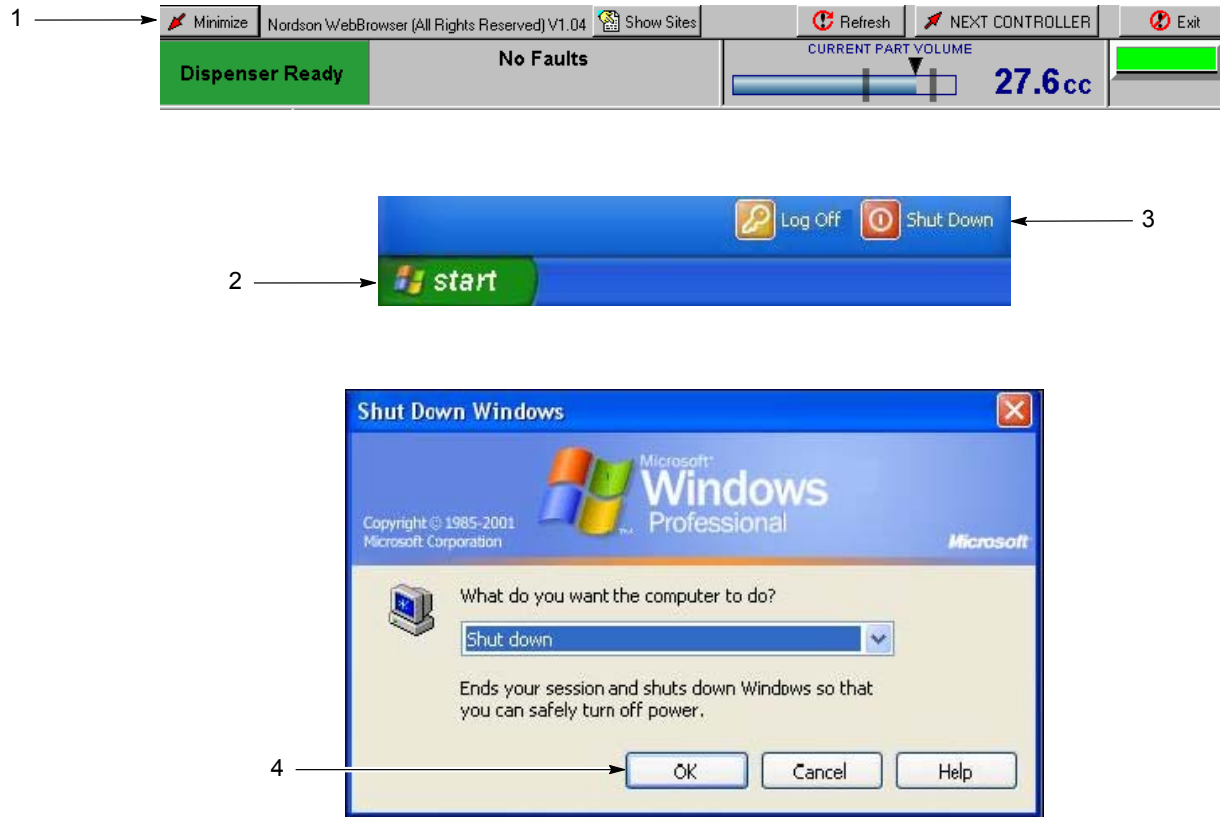

Figure 9 PCI Controller Shutdown
1. See Figure 9. Touch **Minimize** (1) at the top of a screen display.
2. Touch **start** (2) on the Windows task bar to access the **Start Menu**.
3. Touch **Shut Down** (3) on the **Start Menu**.
4. Make sure that **Shut Down** is displayed in the **Shut Down Windows** field. Touch **OK** (4).